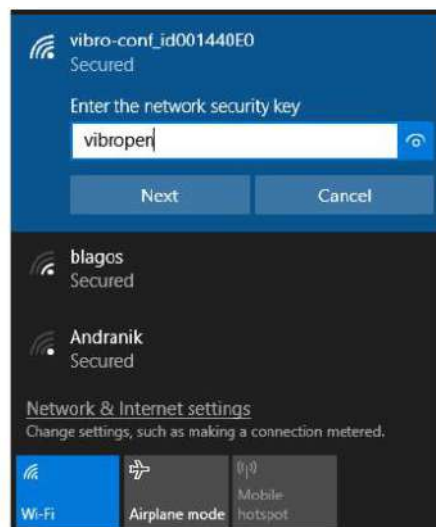

Figure 1.3 - Connection to the network "vibro-conf ...", enter the password
2. Connect the laptop to the network "vibro-conf ...", password "vibroper" (Fig. 1.3).